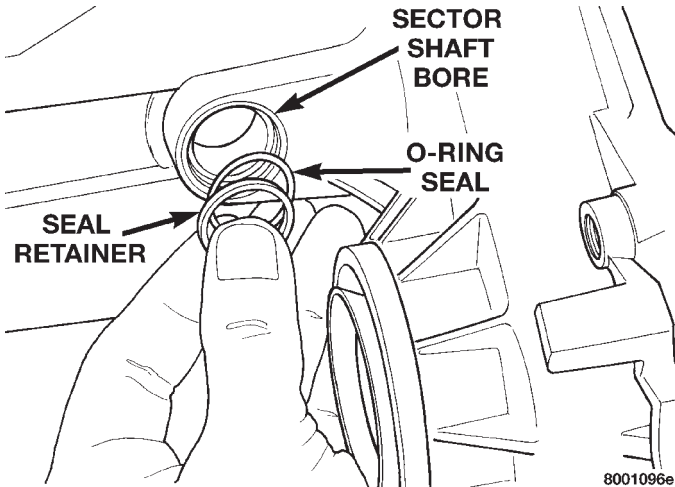

Fig. 29 Sector Shaft Seal And Retainer Removal
(5) Remove sector shaft O-ring seal and nylon retainer (Fig. 29)